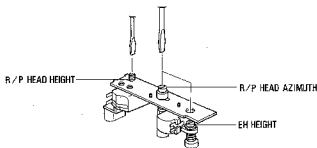

Fig. 5.3.3
Depress the play button. Place the small block of the M-300 on the guide for Erase Head, then referring to Fig. 5.3.3, turn the Head Height Adjustment Screw so that the small block will come into the groove of the Head Guide.
- (1) Load a Track Viewer (DA09012A) and then visual check shall be made on the head height. Turn the Head Height Screw as shown in Fig. 5.3.3 until the center between the L and R of the Head becomes on the middle point of the 2 parallel lines (0.3 mm) of the Track Viewer. Azimuth shall also be checked visually.
- (2) Connect VTVM to Output Jacks.
- (3) Load a 1 kHz Track Alignment Tape (DA09007A). Turn the Head Height Adjustment Screw until the output of the both channels becomes minimum.
- (4) Load a 15 kHz Azimuth Tape (DA09004A). Turn the Head Azimuth Adjustment Screw until the output of both channels becomes maximum.
- (5) As the height will vary because of the adjustment as per item (4), the adjustments of items (3) shall be repeated for 2 - 3 times so that the best location can be discovered. After completion of the above adjustment, apply a quantity of AVDEL BOND #114 to the Head Height Adjustment Screw, and then clean off overflow if any.